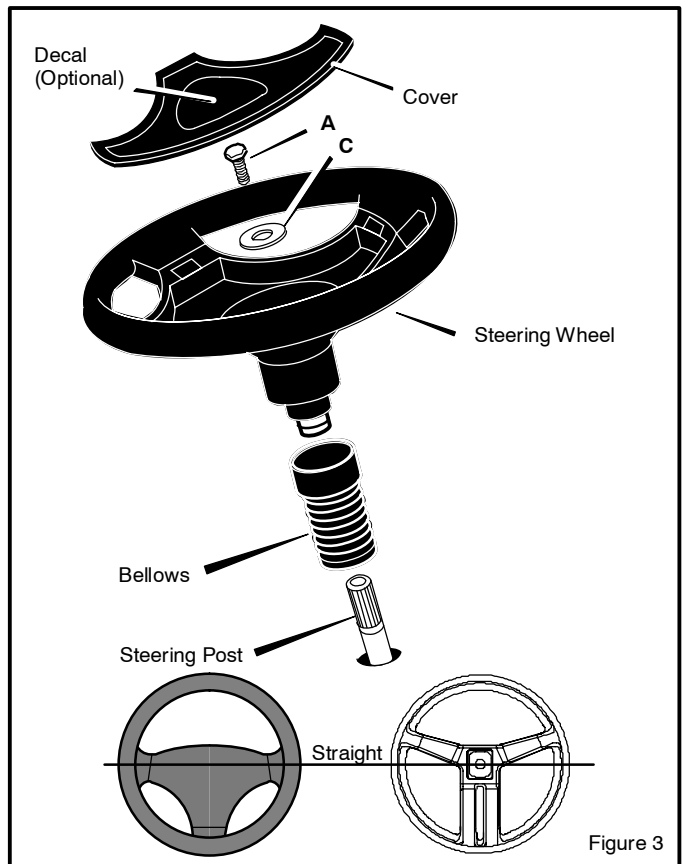

Figure 3
2. Slide the **bellows** over the **steering post** (Figure 3).
- NOTE:** Before attachment of the steering wheel, make sure that the front wheels point forward and are straight. For proper alignment of the steering wheel, see Figure 3.